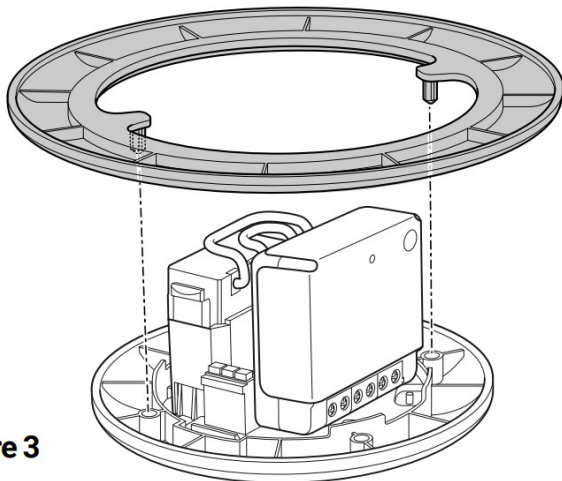

Figure 3
4. Assemble 120mm flange if required, see **figure 3**.